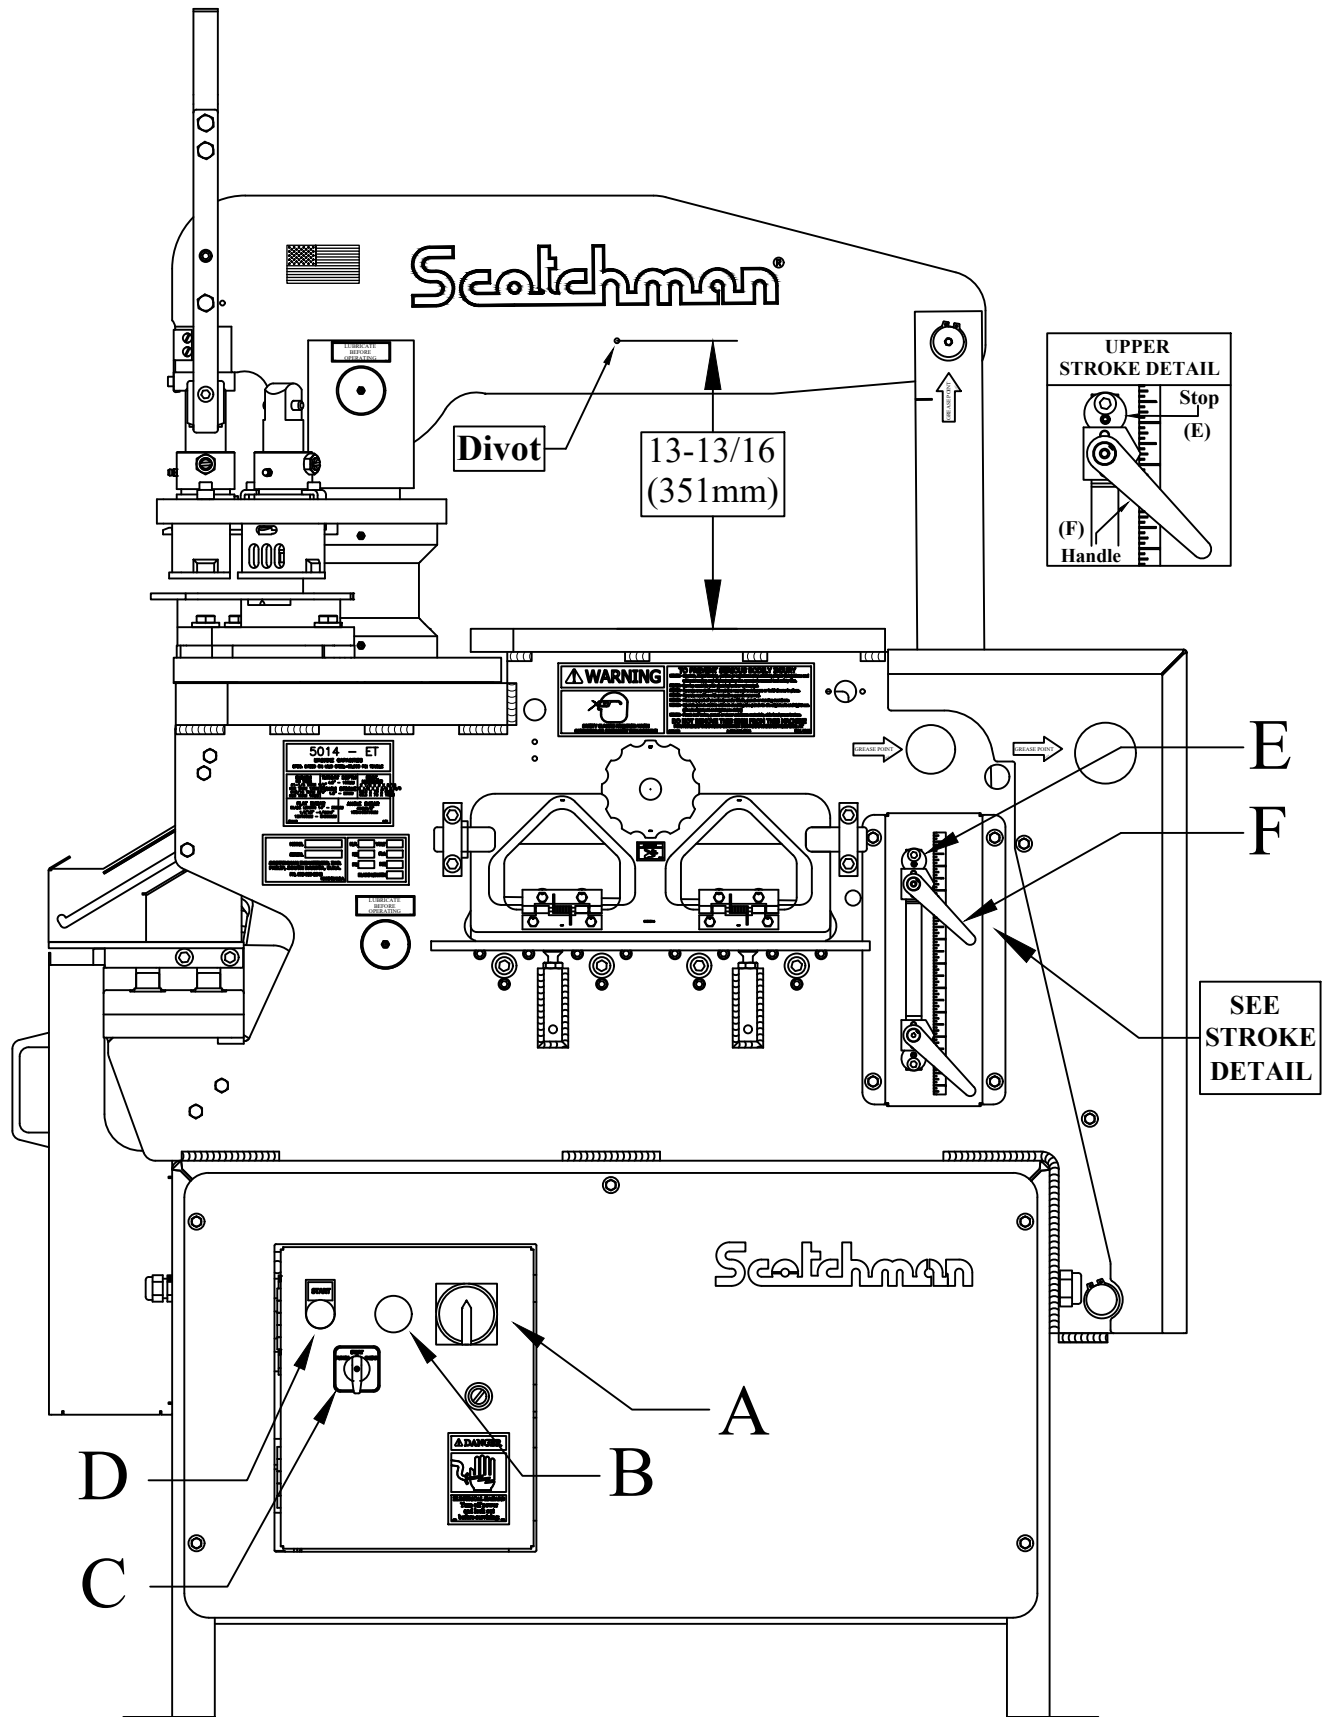

FIGURE 6
**SEE FIGURE 6 ON THE FOLLOWING PAGE.**
- 2. Place the Disconnect Switch (A) in the OFF position.**
- 3. Place the stroke control handles (F) in their outermost positions..**
- 4. Place the Selector Switch (C) in the START position. Place the Disconnect Switch (A) in the ON position. Push the green START button (D) to power the machine.**
- 5. Place the Selector Switch (C) in the SHEAR position and allow the punch barrel to reach its lowest point. Turn OFF the machine by pushing the Emergency Stop Button (B).**
**When (H) is other than 13-13/16" (351mm):**
- A. Place the Selector Switch (C) in the PUNCH position and allow the punch barrel to reach its highest point. Turn OFF the machine by pushing the Emergency Stop Button (B).**